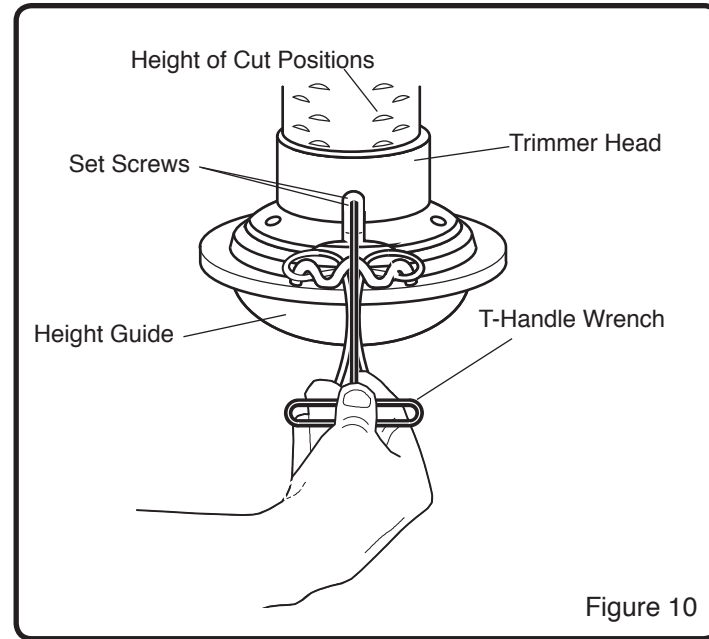

Figure 10
1. Use the T-Wrench, found in a parts bag, to loosen the (2) set screws. (See Figure 10)